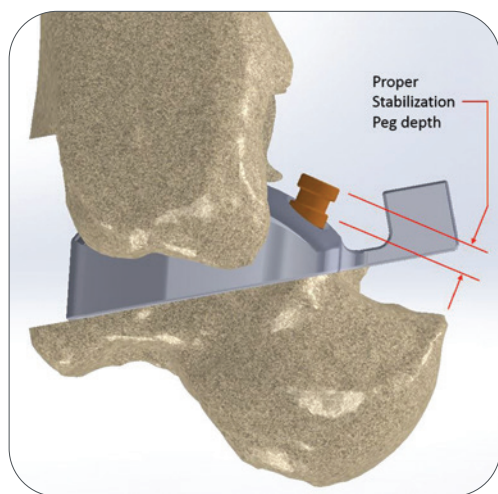

Figure 10-2
**10-1a** When using the sloped talar trial, drill one talar peg hole with a 4.5mm drill, drilling to hard stop, followed immediately by filling the hole with a stabilization peg by hand or with stabilization peg removal tool, then repeat for the second talar peg hole. Do not tamp the stabilization pegs too far (**Figure 10-2**). Leave the nail head above the surface of the dome to allow removal. Remove the talar trial handle. **For prepping the standard tibial trial**, drill a 75mm pin into the distal hole to hold the tibial trial base. Next, drill the proximal 3.0mm hole and leave empty. For the larger proximal hole, use the 7.9mm drill bit and drill to its stop.